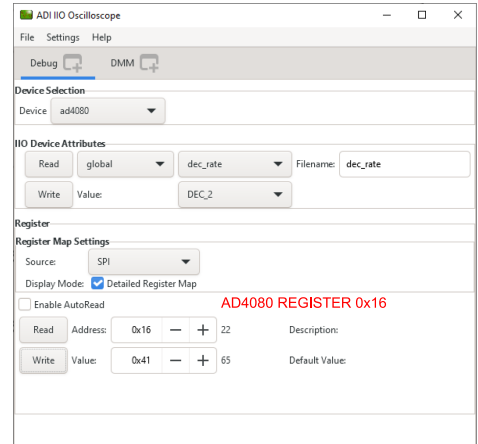

Figure 27. AD4080 Register 0x16 Setting
- ▶ If the AD4080 data is different from the expected decimal -342570, set the AD4080 Register 0x15 to one of the following values: 0x51, 0x61, 0x71, 0x81, 0x91, 0x01, 0x11, 0x21, 0x31, or 0x41, as shown in Figure 27. Save the data to a .csv file and check the value. Repeat this step with a value in the list until the AD4080 data is exactly -342570. The AD4080 register setting is completed.